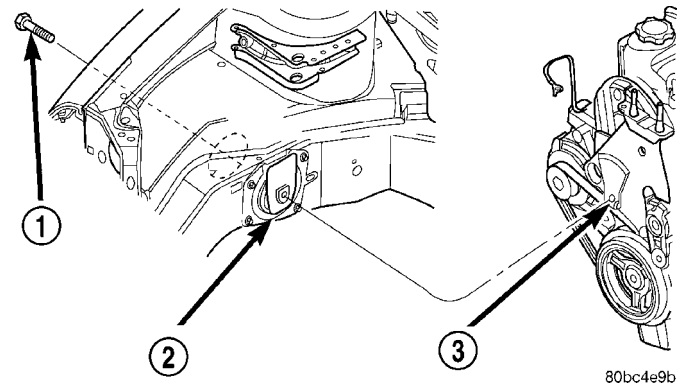

Fig. 97 Engine Mount to Bracket
(11) Remove right engine mount to engine mount bracket through bolt (Fig. 97).
(8) Install right engine mount to engine mount bracket through bolt. Tighten bolt to 118 N·m (87 ft. lbs.) (Fig. 97).